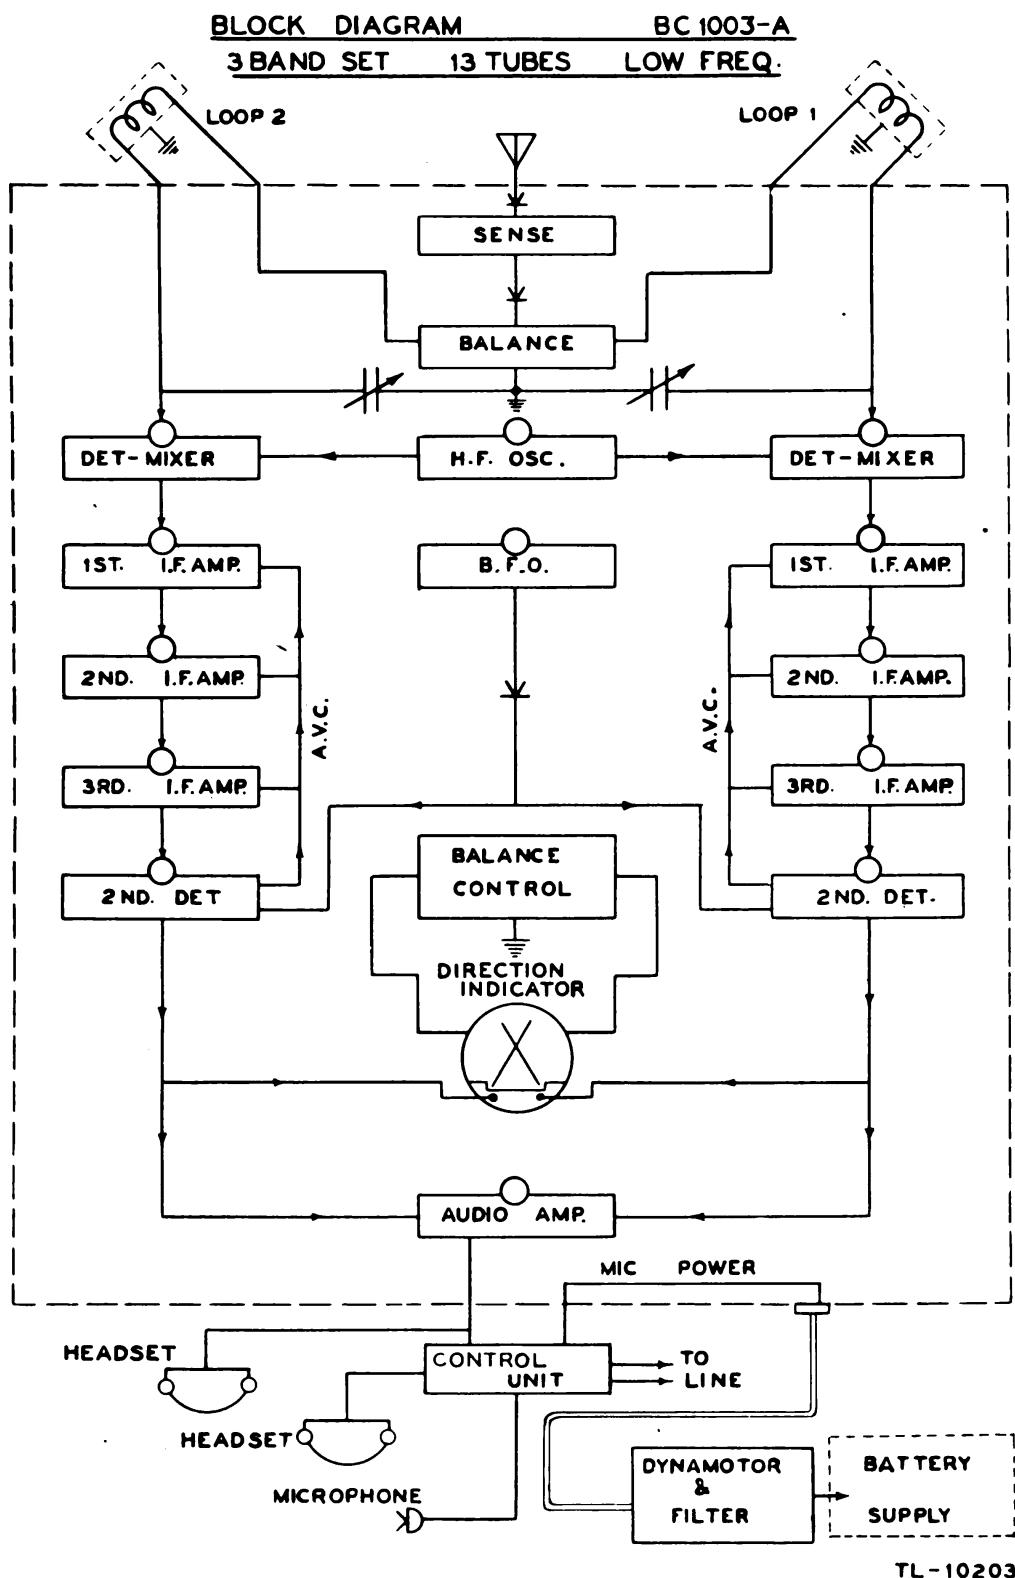

Figure 3. Radio Receiver BC-1003-A, block diagram.
b. *Radio Receiver BC-1003-A (3-band set).* The other receiver, Radio Receiver BC-1003-A, covers the frequencies in the following three bands: Band A, 100-200 kc; band B, 200-450 kc; band C, 450-1,000 kc. This receiver has three stages of i-f amplification in each channel, and therefore uses two extra tubes making 13 in all, as shown in figure 3.